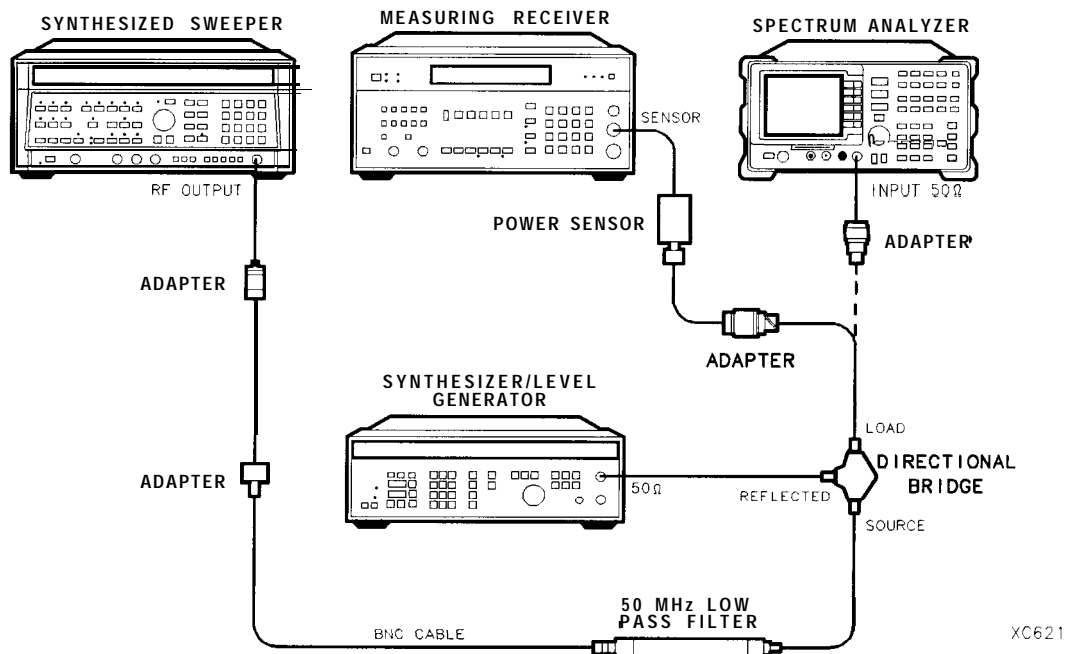

Figure 2-44. Third Order Intermodulation Distortion Test Setup
2. Connect the equipment as shown in Figure 2-44 with the output of the directional bridge connected to the 100 kHz to 1.8 GHz power sensor.